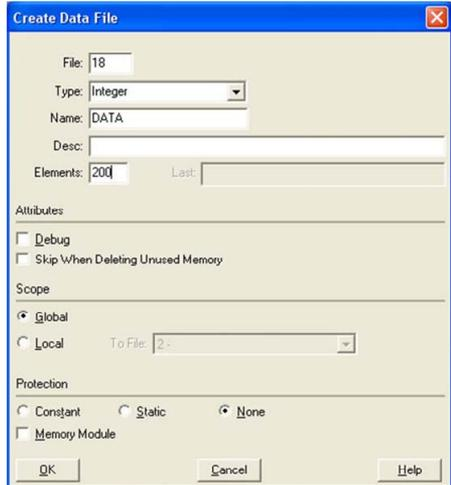

Figure 100: Creating a Data File
- c) Follow the same procedure to create a data file. This file will be used to store the incoming data read from the interface card. Enter a file number (e.g. 18), set the type to "Integer", enter a descriptive name (e.g. "DATA"), and enter a number of elements (e.g. 200). Refer to Figure 100. Click OK to create the file.